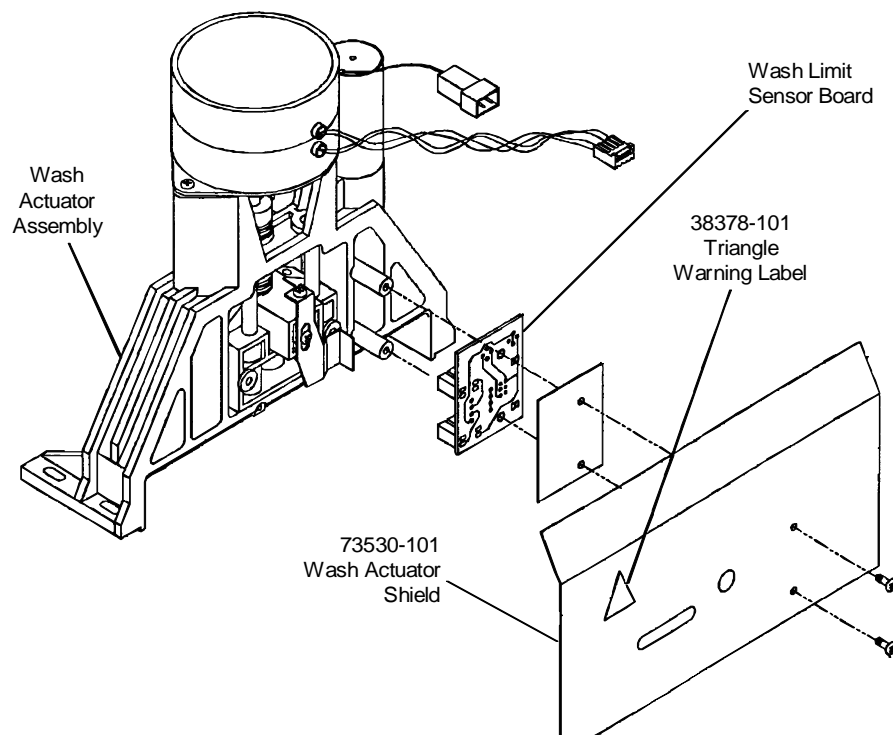

Figure 10: Wash Actuator Assembly
- b) Referencing Figure 10, remove the two (2) screws securing the wash limit sensor board to the wash actuator assembly.